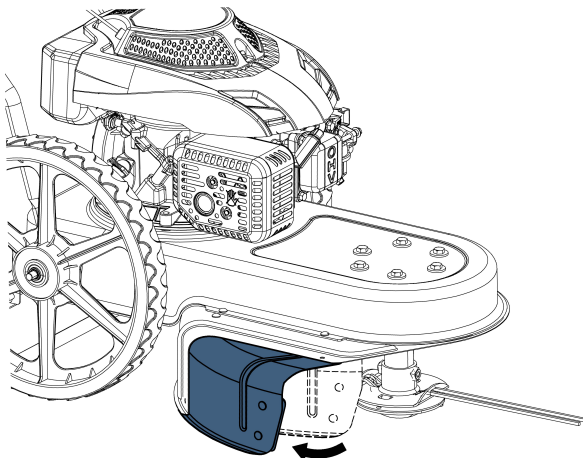

Figure 3-4
1. Pull the trimmer shield out into position by pivoting the hole. See Figure 3-4.